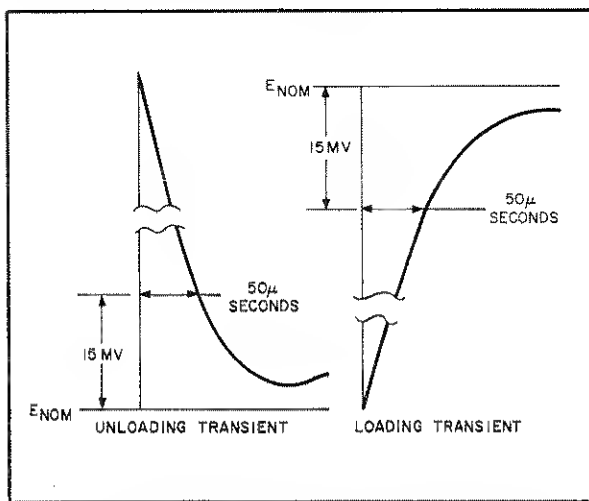

Figure 5-5. Transient Recovery Time Waveforms
- i. Starting from the major graticule division representative of time zero, count to the right  $50\mu\text{sec}$  and vertically  $15\text{mV}$ . Recovery should be within these tolerances; as illustrated in Figure 5-5.